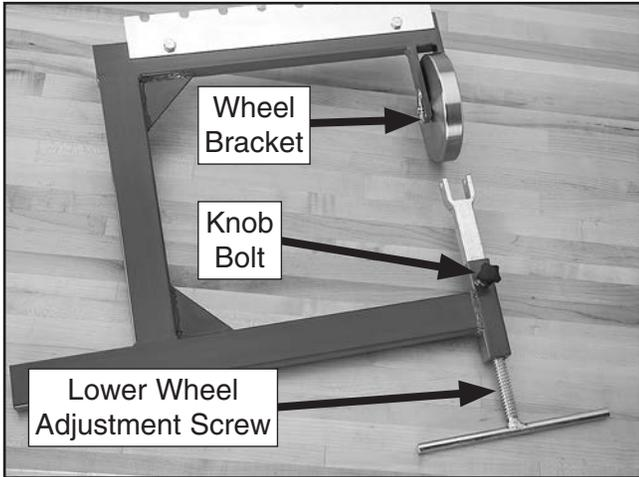

Figure 6. Lower wheel adjustment screw and knob bolt installed.
3. Lay frame down flat and thread lower wheel adjustment screw into frame opposite the wheel bracket (see **Figure 6**).
4. Install M8-1.25 x 20 knob bolt into threaded boss on frame (see **Figure 6**).